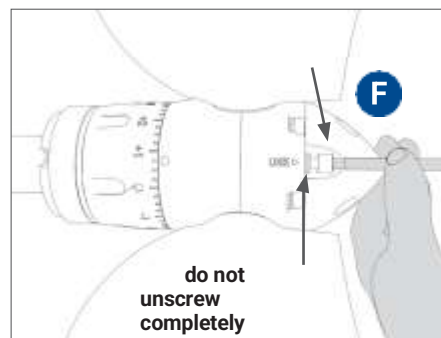

FIG. 24 Loosening of the set screw
- Unscrew the set screw (indicated with **F** in Fig. 24) by 5-6 turns; this will allow you to adjust the pitch without the risk of losing the screw in the water (important: at 10 turns, the screw comes completely out from the propeller with the risk of losing it).